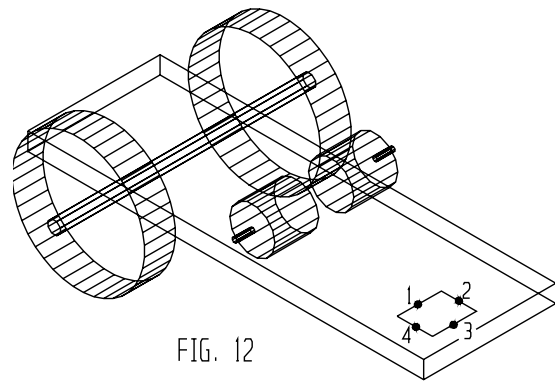

FIG. 12
Step 6. Click the lines that make up the caster rectangle, Lines 1 through 4, Fig. 12, and press ENTER.